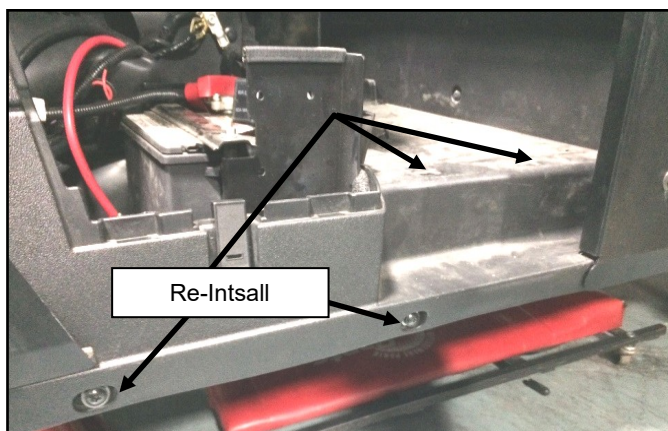

Fig. 5.6 (Right Side Cover)
- 5.6 Re-install right rear side cover hardware previously removed in Step 2 section, per fig. 5.6.